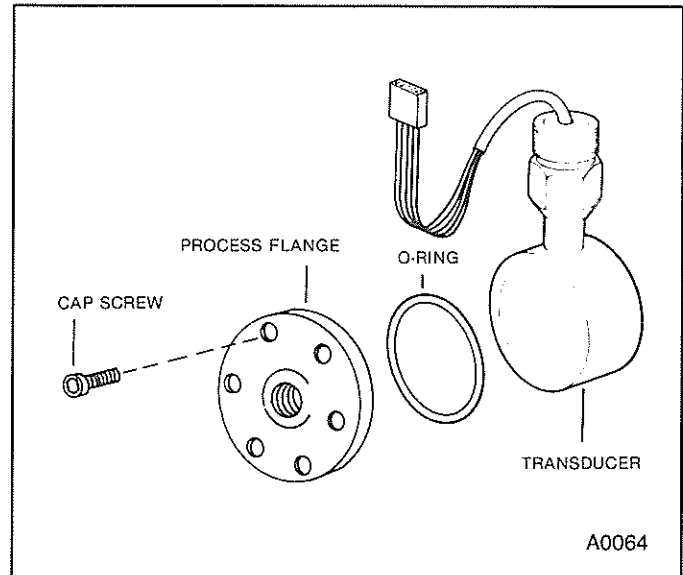

FIGURE 32 – Transducer Assembly (BCN56/57 and BCN66/67)
2. Remove the six cap screws (Figure 32) from the process flange.
4. Locate the O-ring in the groove in the process flange or on the transducer (Figure 32). Carefully remove the O-ring and set it aside.